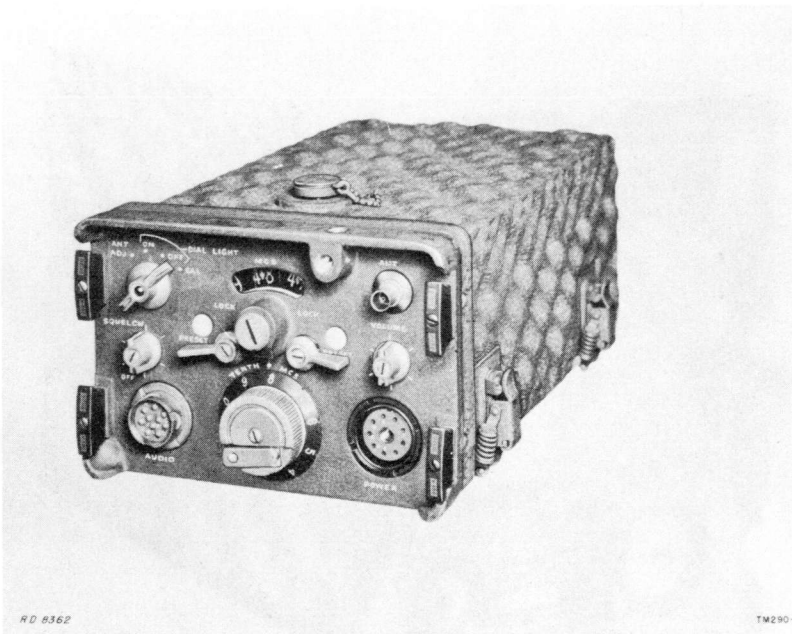

Figure 43.—Receiver-Transmitter, RT-70/GRC.
c. The controls and instruments mounted on the panel of Receiver-Transmitter RT-70/GRC are illustrated in Figure 43; their functions are listed in the following chart: